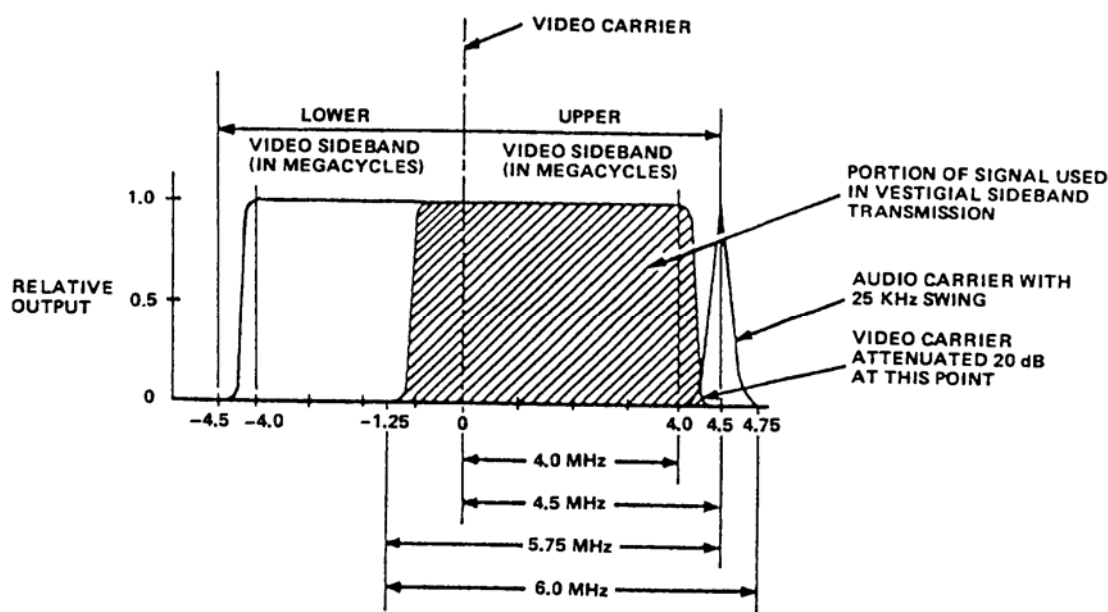

Figure S-17. TV Bandwidth
a. A review of the standard bandwidth breakdown of a TV channel is presented now so that you can associate it with the bandwidth of the color signal when it is presented later (see Figure S-17).
- (1) Bandwidth is 6 MHz.
- (2) Video carrier is 1.25 MHz above the vestigial sideband.
- (3) The sound carrier is 4.5 MHz above the video carrier.
- (4) Video information must be compressed within the 4.2 MHz band above the video carrier.